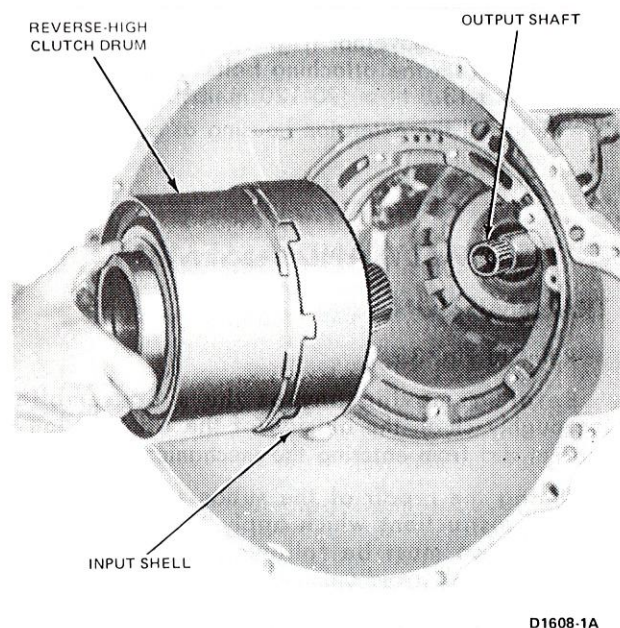

FIG. 16 Removing or Installing Forward Part of Gear Train
11. Remove the forward part of the gear train as an assembly as shown in Fig. 16.